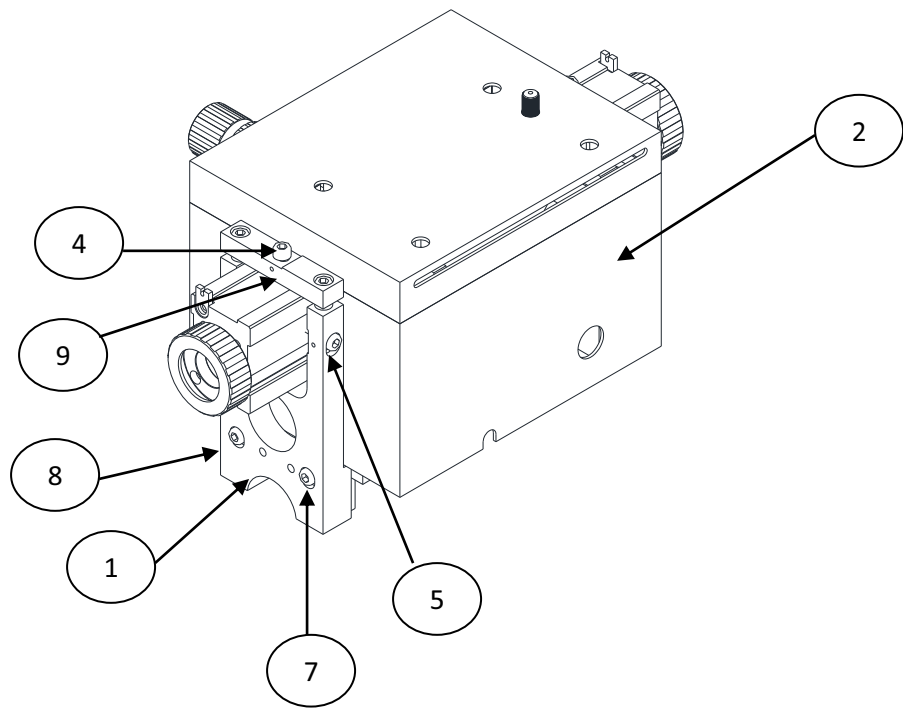

FIG.1
- 2.1 Take down the four screws 1# which fasten the box, move out the Abbe measuring unit 2# completely (Fig. 1).